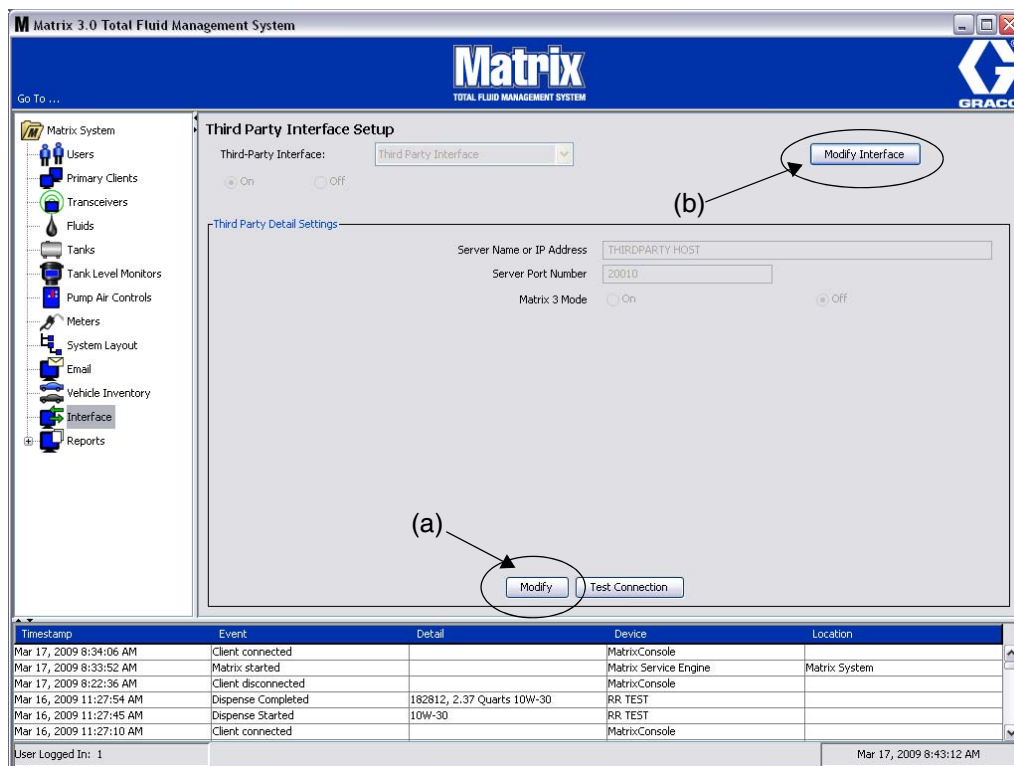
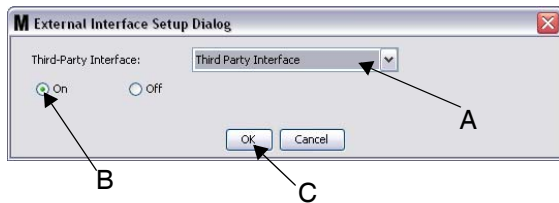

FIG. 175
FIG. 177 External Interface Setup Dialog
1. Click the **Modify** button (a) (FIG. 175, page 123) to display the External Interface Setup Dialog box.
1. Click the **Modify Interface** button (b) (FIG. 175). The External Interface Setup Dialog box shown in FIG. 177 displays. This dialog box is used to specify the Third Party Interface you are using.
2. From the drop down menu (A - FIG. 177) select Third Party Interface.
3. Click **“ON”** (B - FIG. 177). Third Party Interface enables Matrix to use the third party interface.
4. Click the **OK** button (C - FIG. 177) to close the screen and confirm your selection.